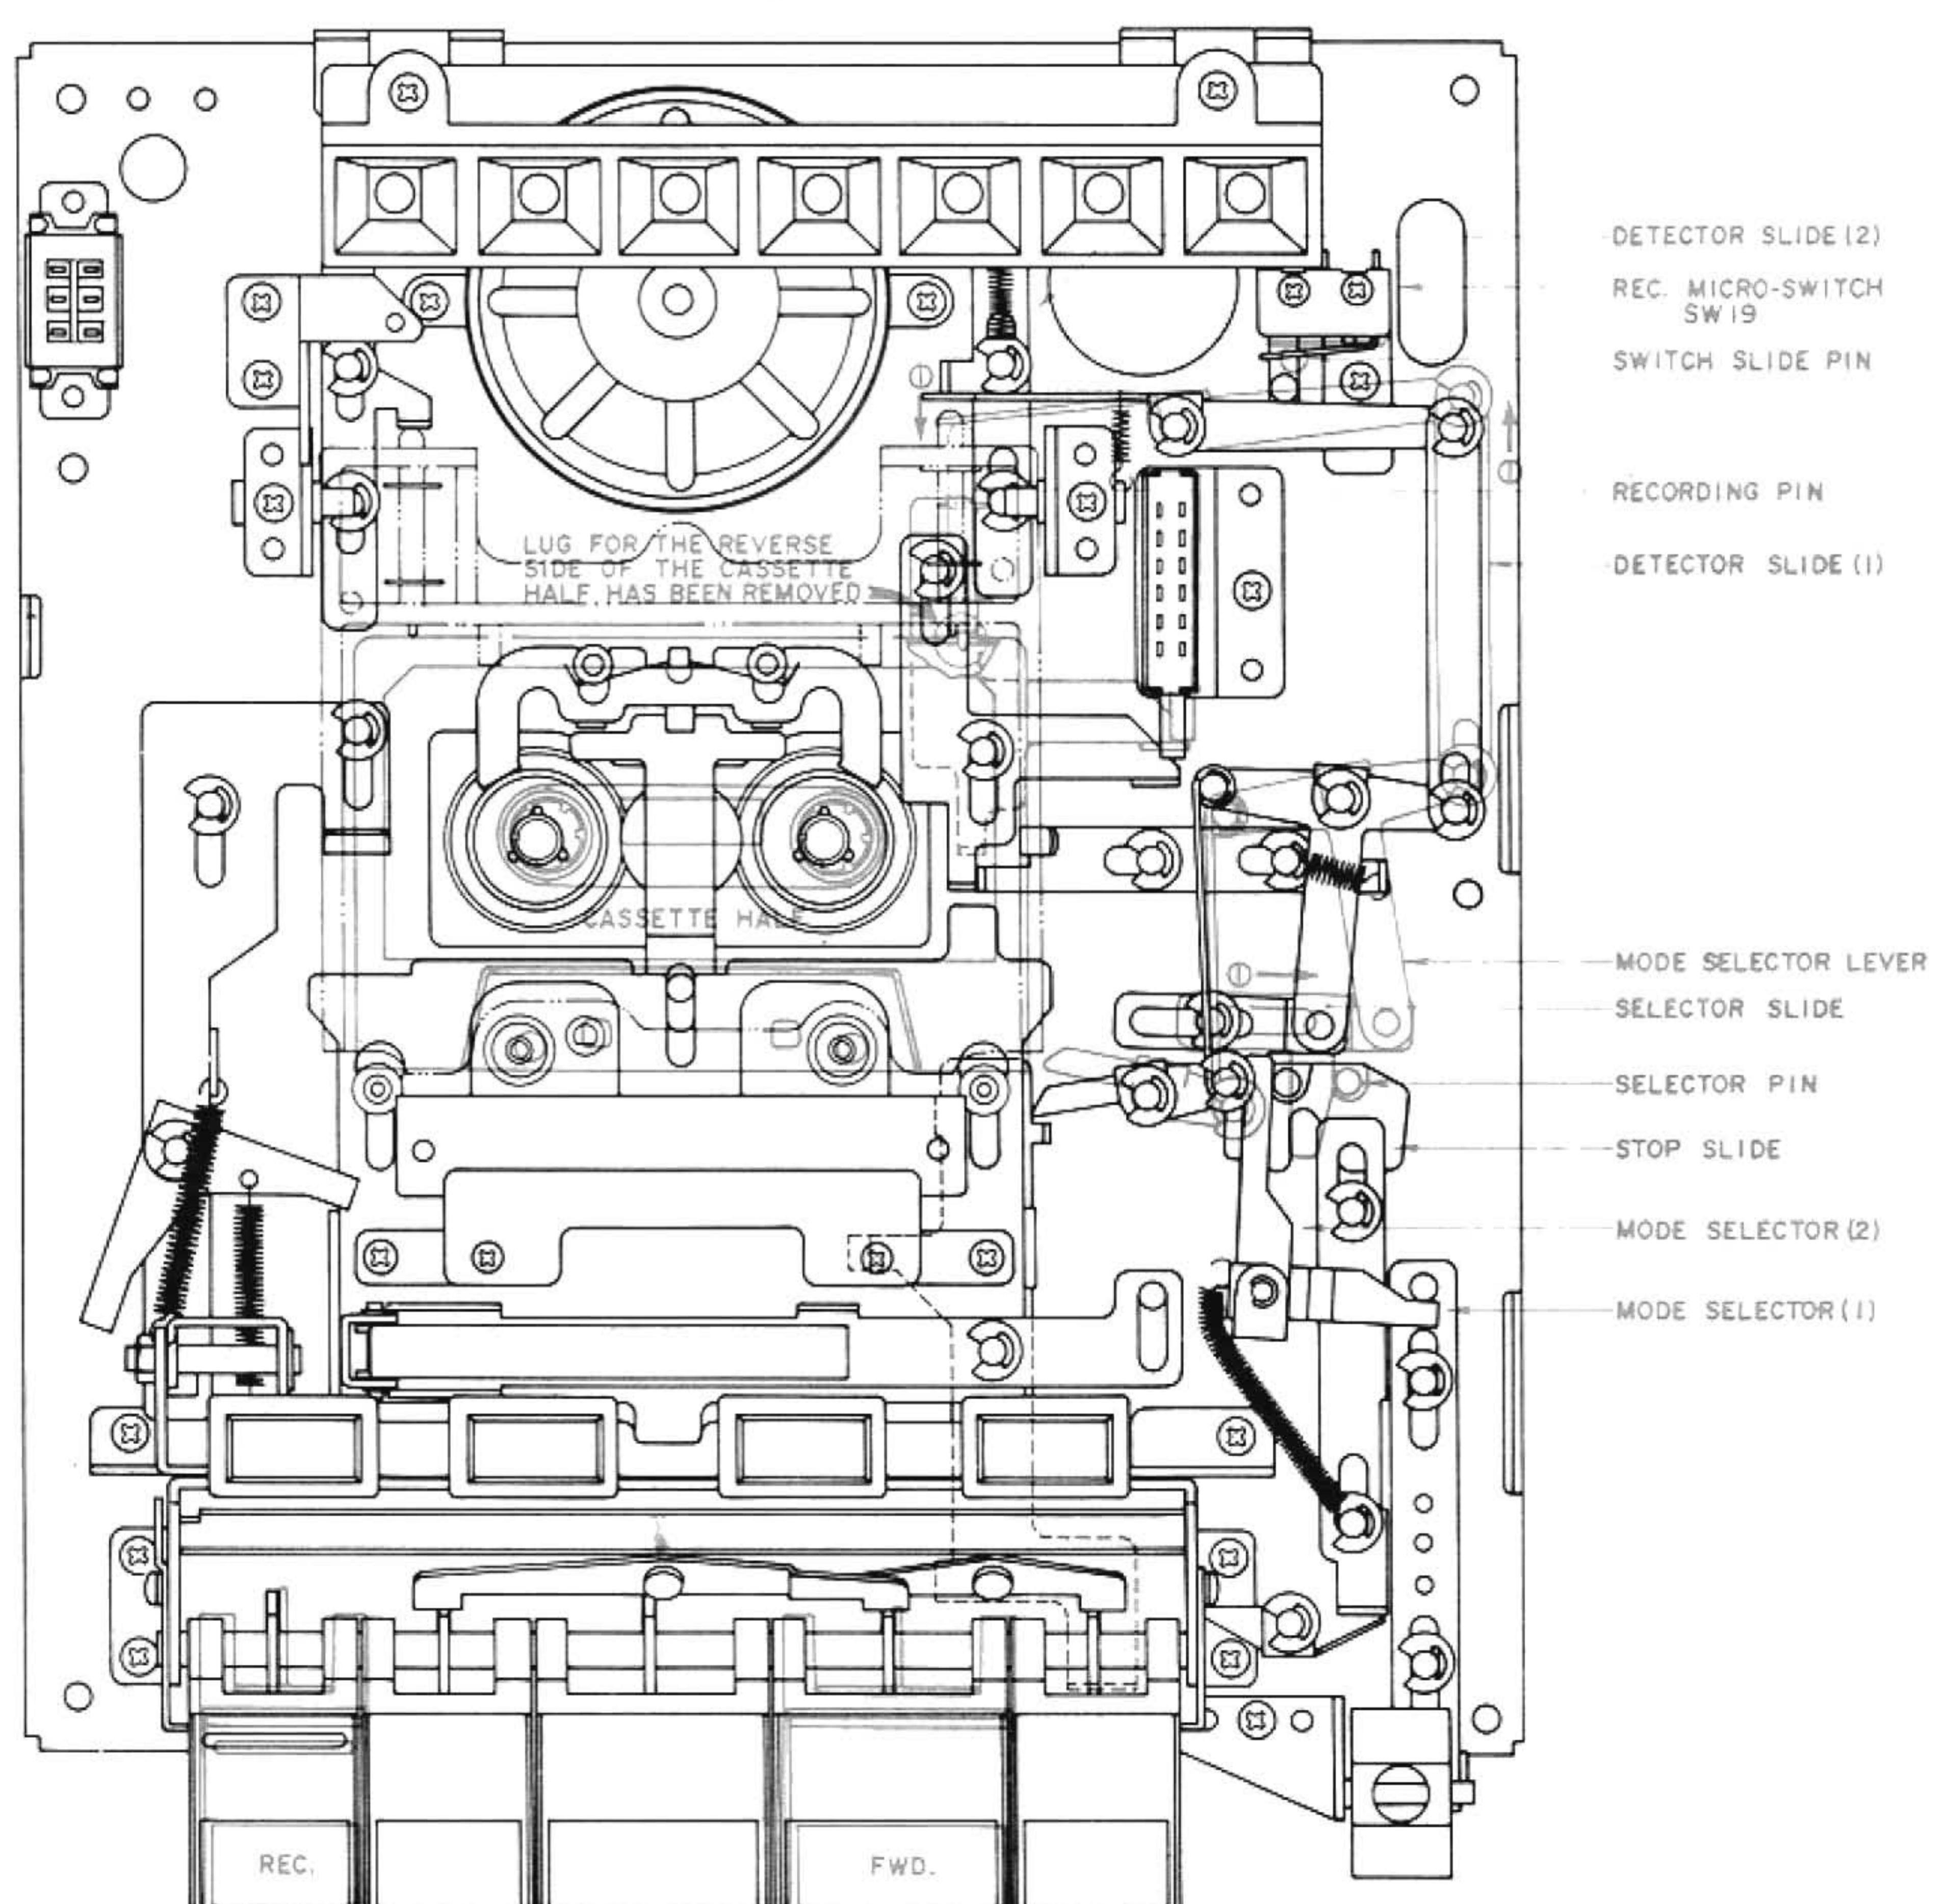

Fig. 36 Key Release From FWD REC Mode
6) Detector Mechanism for prevention of re-recording (Refer to Fig. 36).